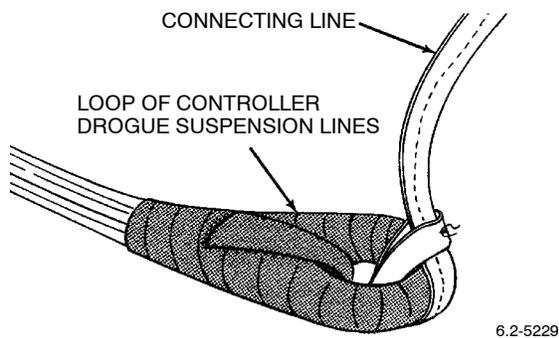

Figure 10. Attachment of Connecting Line to Controller Drogue
a. Pass one looped end of connecting line thru base loop of controller drogue (Figure 10). Route opposite end of line thru loop and pull tight. Tack loop with one turn of size 6 thread, double and waxed; tie off.